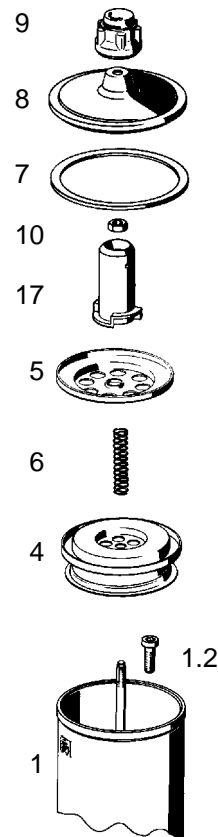

Fig. 2
1.3 Versions with hexagon nut (10)
Unscrew the hexagon nut (10). Remove the protecting tube (17) together with the filter cover (5) (Fig. 2).